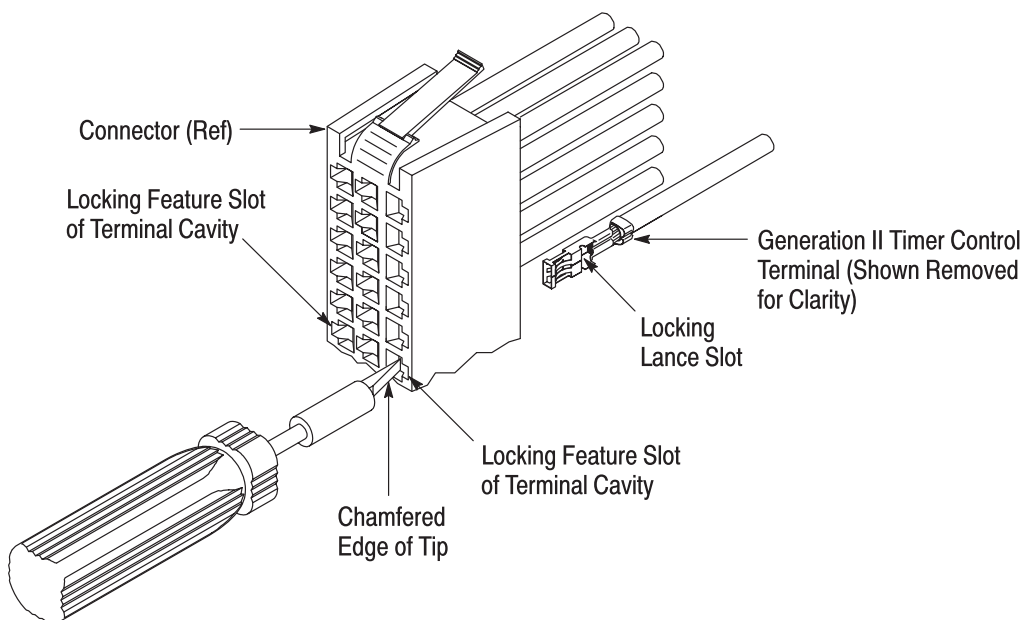

Figure 2
1. Align the tool tip with the cavity of the terminal to be removed. The tool tip must be positioned so that the chamfered edge of the tip is facing the locking feature slot of the cavity (this slot is on one side of the cavity only). Refer to Figure 2.